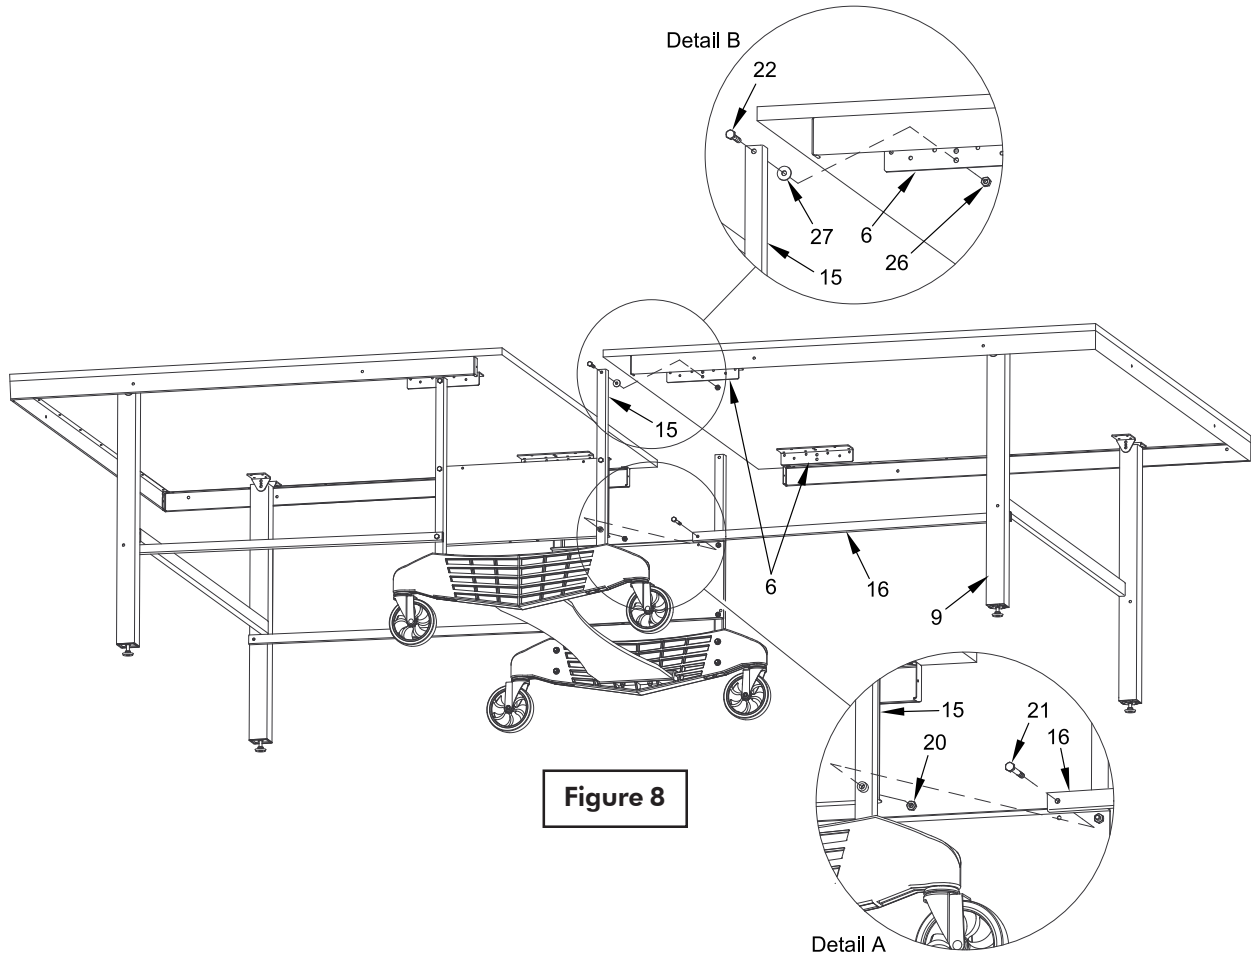

Figure 8
Make sure the leg assembly #9 on the second table half is open and linkages #16 are pointing toward middle of table. See Figure 8. With one adult person on each side of the table, lift and set table half on its legs.
17. Remove bottom bolts #21 from bottom holes that attach name panels to Upright Tubes. Attach end of Linkage #16 to **outside** of Upright Tube #15 with bolt #21 (that you just removed), spacer #20 and Locknut #26. Note spacer #20 goes between linkage #16 and upright tube #15. See Figure 8 and Detail A. **Go back over assembly and tighten all nuts snug, but do not overtighten. Joints must pivot.**
While holding table half up, slide this half toward base assembly until the hole in Upright Tube #15 is aligned with **lower middle** hole in the Mounting Bracket #6 on the bottom of table half. See Figure 8 and Detail B. Attach Upright Tubes #15 to Mounting Brackets #6 with Hex Bolts #22, Washers #27 and Locknuts #26 that you placed on floor in step 13.